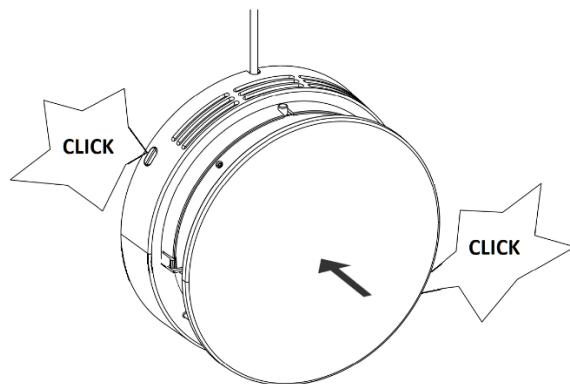

Figure 25 - The ventilation unit is placed back in the wall
6. Place the ventilation unit back in the wall, and carefully press it all the way in until the spring catches make a click, see Figure 25 below.